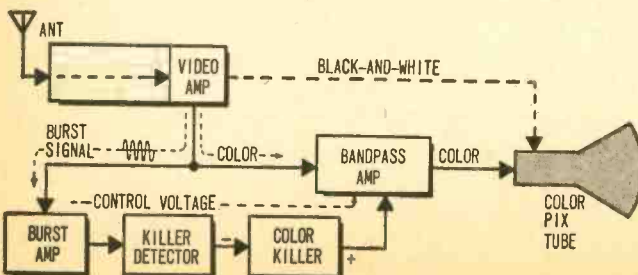

Fig. 2. Block diagram of automatic color killer circuit showing how burst signal is used to operate killer stage which in turn controls bandpass amplifier.
**Automatic Slaughter.** The simplified block diagram in Fig. 2 reveals how the main part of the color receiver relates to the burst and color killer stages. The transmitted signal enters the antenna and travels to the video amp. Black-and-white proceeds to the picture tube even during a color program since it supplies the brightness, or "luminance," portion of the picture. The complete video signal also descends on the bandpass amp. Along with it rides the burst, shown as a series of cycles. (Each burst occurs at a frequency of 3.58 MHz. We're not concerned at this time with further details on the burst except to note that it always occurs when the program is in color.)
Before looking at an actual schematic, consider another detail in the operation of the color killer stage. Note in Fig. 2 that a negative control signal is entering this stage—but it emerges as a positive signal. The change in signal phase is typical of amplifier stages; when the tube grid is driven negative, the output signal is not only amplified but made opposite in polarity. This is an important effect in the color killer circuit. The positive signal (produced whenever burst is present) is applied to the grid of the bandpass amplifier. This creates a positive bias that turns on the stage, allowing it to pass color signals. When burst is absent, the bandpass grid is very negative and blocks color signals.